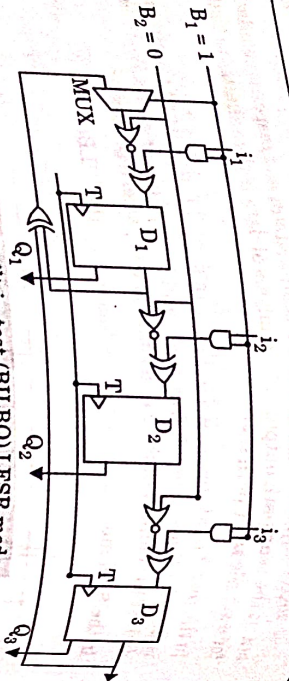

Fig. 5.16.5. Built-in-test-(BILBO) LFSR mode.
- In the test 2 mode as shown in Fig. 5.16.5, $B_1 = 1$, $B_2 = 0$ and the circuit is then configured in a LFSR mode and be used either as a polynomial divider to compact data or as a random test pattern generator.